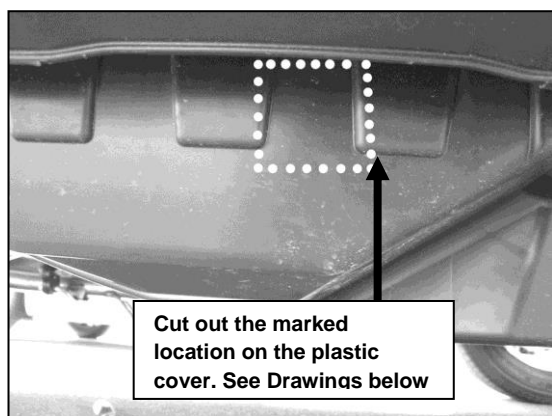

Figure 2
- Using a sharp knife or pair of shares, cut out the shields as marked using the templates (Figure 2).